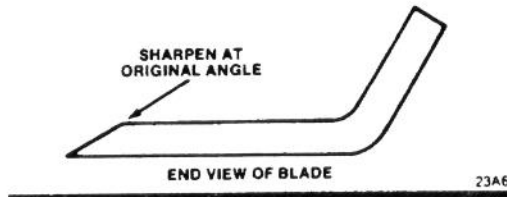

Figure 17
- 5. Using a file, sharpen cutting edge at both ends of the blade (Fig. 17).
**IMPORTANT:** Sharpen top side of blade and maintain original angle to assure a sharp cutting edge (Fig. 17). Blade will remain balanced if same amount of material is removed from both cutting edges.